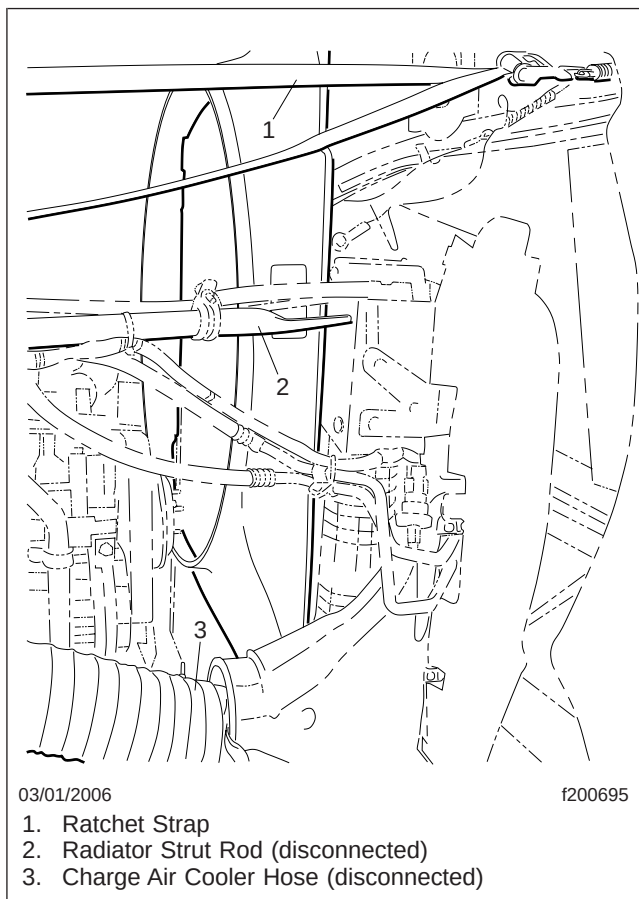

Fig. 1, Fan and Shroud Replacement
2. Using a ratchet strap, support the hood from one of the hood springs and a solid anchor such as a bracket in the engine compartment. See Fig. 1.
5. Disconnect the charge air cooler hoses at the charge air cooler. See Fig. 1.